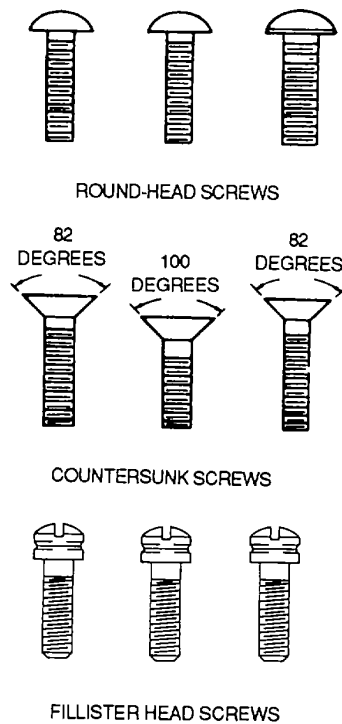

Figure 2-38. Machine Screws
(2) *Countersunk screws*. The MS35190, MS51959, and MS35199, MS35203, MS51960 countersunk screws correspond to round-head screws, MS35206, MS35214, MS35218, MS51957, and MS35207, MS35215, MS35219, MS51958, in material and application. The countersunk type, as shown in figure 2-38, is a low carbon steel screw.